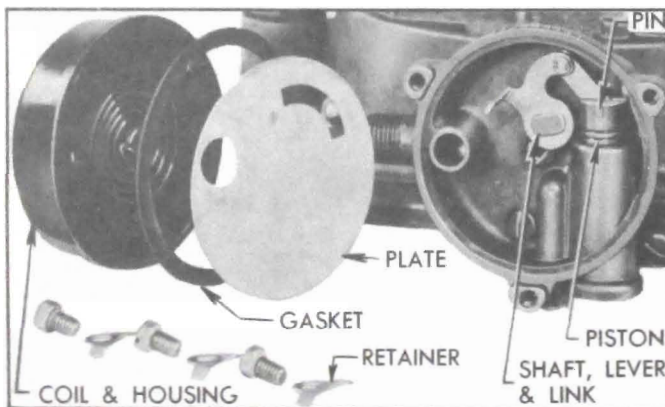

Figure 3-47—Climatic Control Parts
19. Connect choke piston to shaft link with piston pin, install shaft in air horn, and guide piston into cylinder. See figure 3-47.